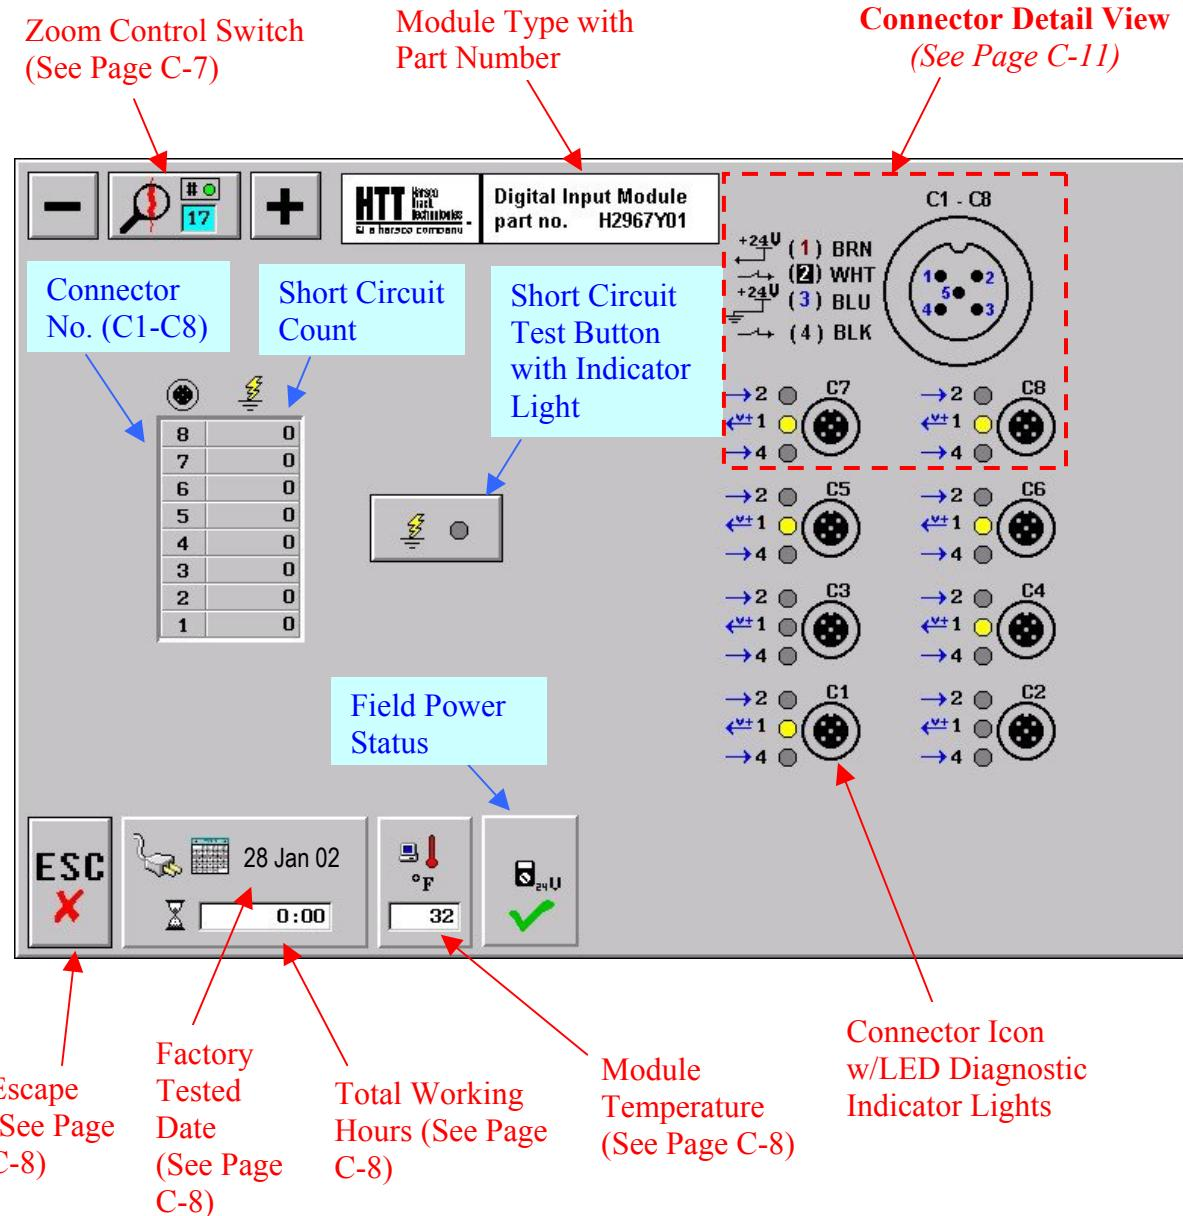

Fig. C-13
**See Page C-10 (Fig. C-13) for Details**
**Field Power Status** - Field Power is 24 volt DC Power that comes from the battery via a circuit breaker located in the Power Distribution Box. Field Power is used to power devices such as limit switches, solenoids and other electrical components. Refer to Fig. C-13 for the *field power status* indicator light location.